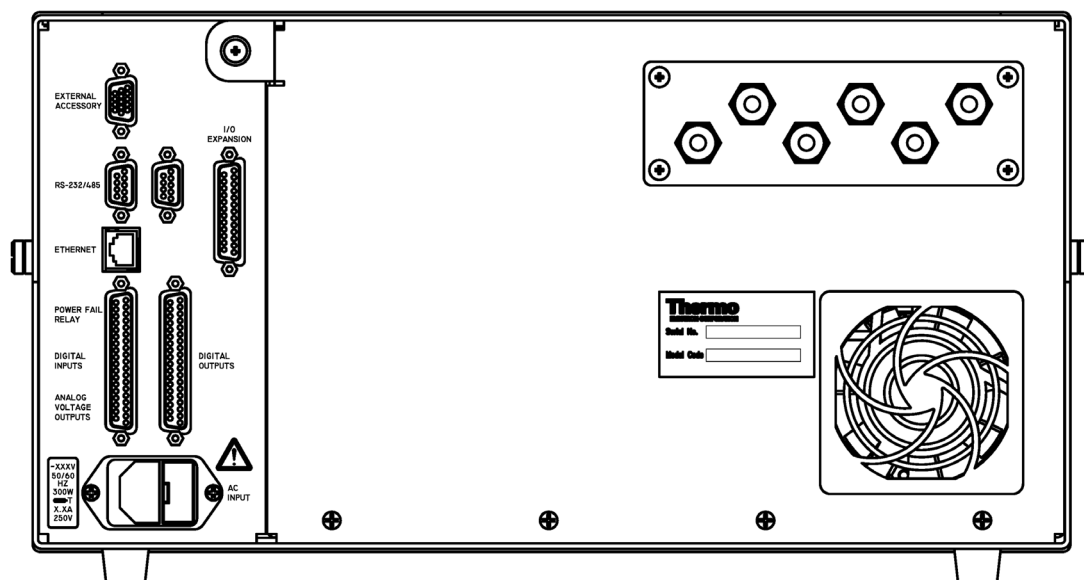

Figure 2–3. Model 15i Rear Panel
1. Connect the sample line to the SAMPLE bulkhead on the rear panel (Figure 2–3). Ensure that the sample line is not contaminated by dirty, wet, or incompatible materials. All tubing should be constructed of FEP Teflon, 316 stainless steel, borosilicate glass, or similar tubing with an OD of 1/4-inch and a minimum ID of 1/8-inch. The length of the tubing should be less than 10 feet.